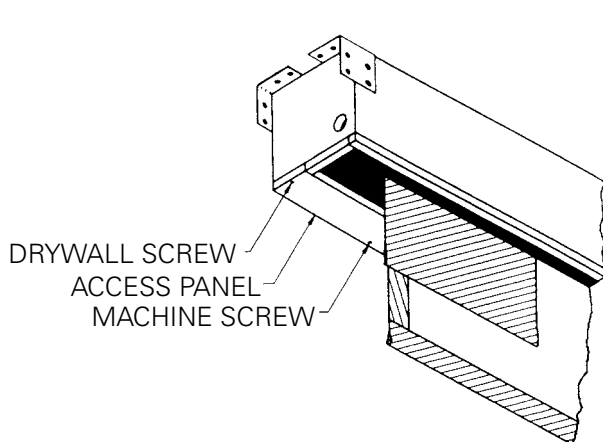

FIGURE 1
3. Detach access panel by removing screws, see figure 1.
1. Remove access panel (Fig. 1).
1. Remove access panel. (Fig. 1).